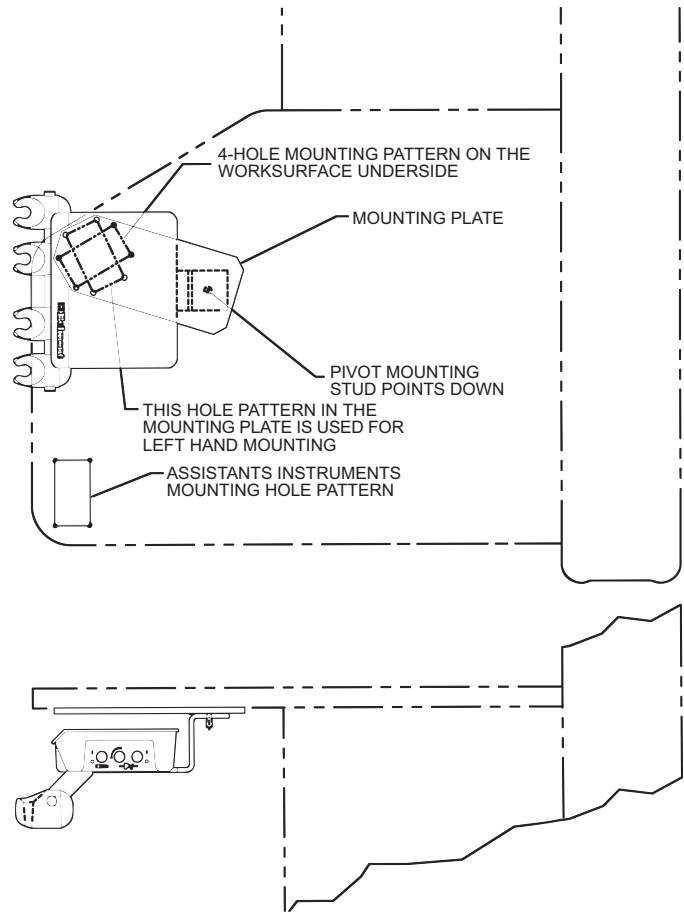

Figure 1. Installing the unit.
1. Fasten the unit swivel plate to the underside of the sliding work surface using the four 10-24 machine screws provided. See Figure 1.